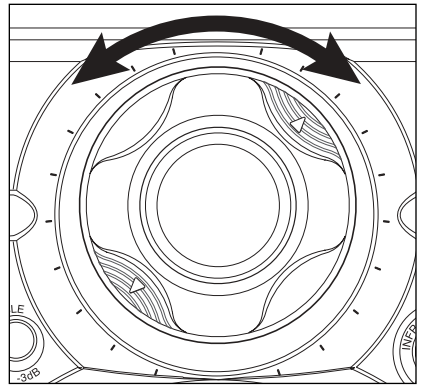

Figure 19
2. Rotate the tweeter housing either clockwise or counter clockwise as required. The mechanism is indexed at equal intervals so that both speakers in a pair can be adjusted equally. Simply count the number of “clicks” as the first tweeter is adjusted. Repeat the process for the second speaker, rotating the tweeter the same number of “clicks” in the opposite direction (See Figure 19).